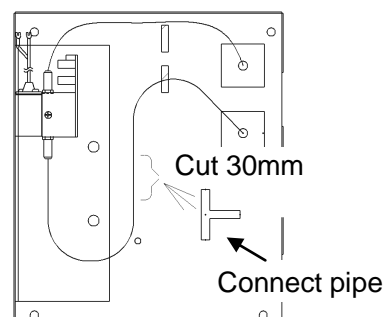

Figure 3
3. Install ①CO₂ valve B assy to the position instructed inside rear cover (Figure 3) using ⑧Screw.